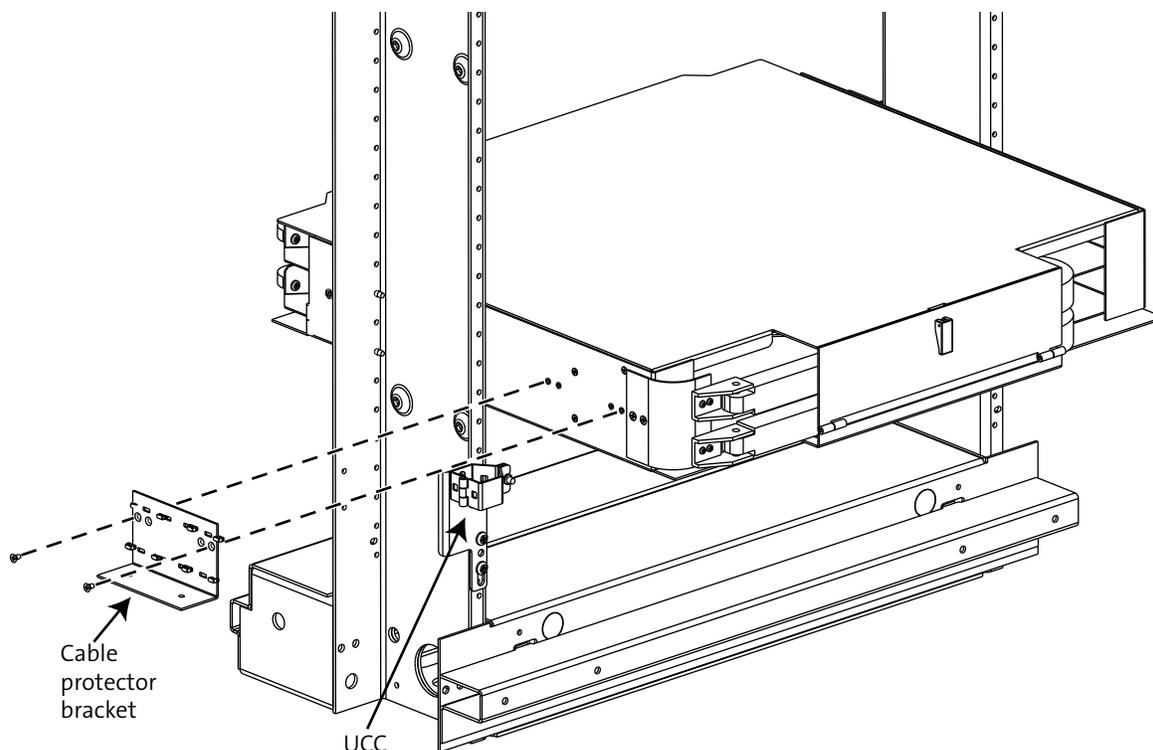

Figure 5
- Step 1:** Attach cable protector bracket to the side of the housing using four #6-32 screws (Figure 5).